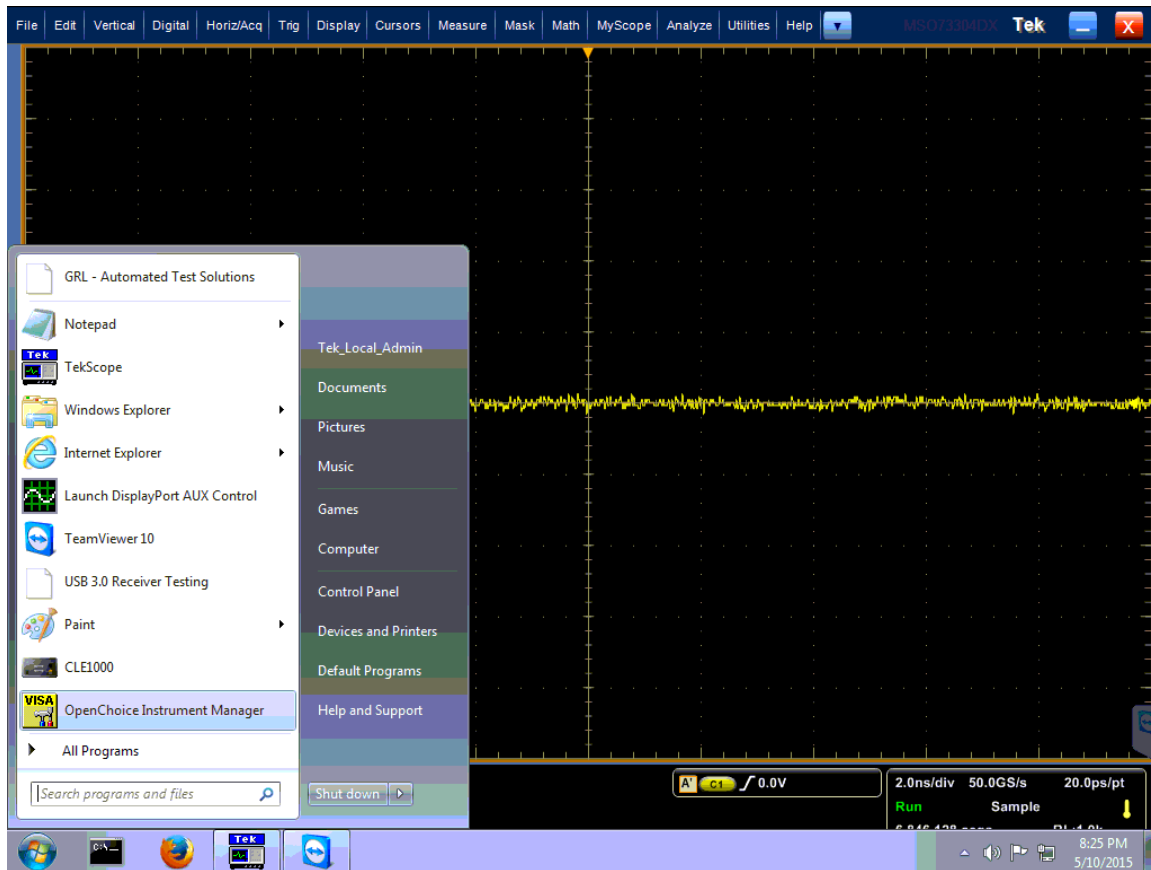

FIGURE 7. OPENCHOICE INSTRUMENT MANAGER IN START MENU
8. On Tek Scope, open the application **OpenChoice Instrument Manager**. See Figure 7.